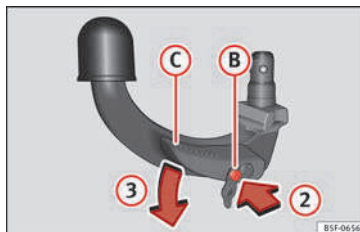

Fig. 180 Step 2.
- Press the release bolt (B) in the direction of arrow ②, and at the same time press lever (C) in the direction of arrow ③ as far as it will go » **Fig. 180**.